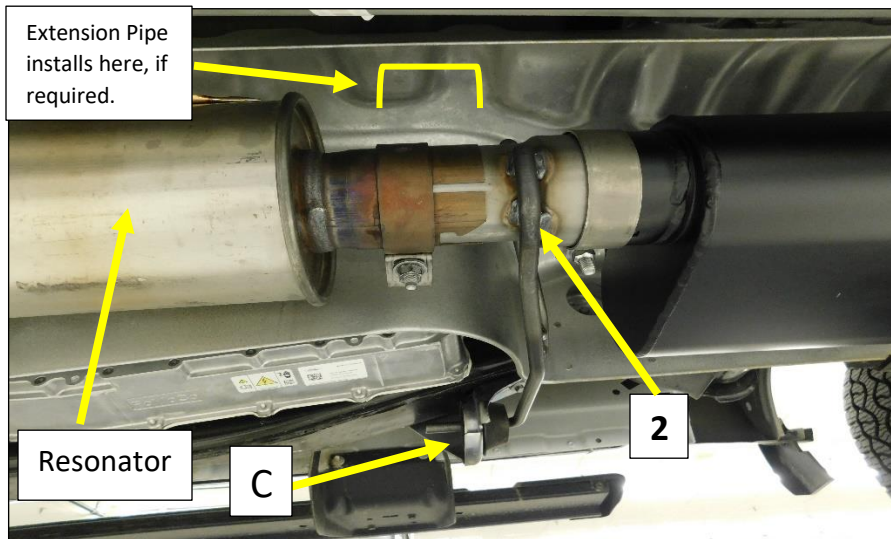

Figure 4
1. Install the muffler inlet pipe (2) into the resonator. **Fig. 4**
2. Install the muffler frame hanger (C) on to the inlet pipe hanger rod. Install the (x3) bolts and tighten. **Fig. 4**
3. Tighten the OEM clamp at the resonator to allow for adjustment. **Fig. 4**
**NOTE: If Required** - Install the muffler inlet extension pipe between the resonator and muffler inlet pipe (4) using the supplied 3" band clamp.